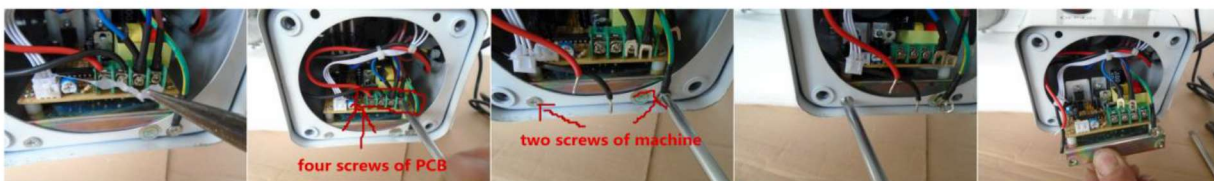

Fig 2
B.用钳子把厌氧胶拿开,然后将扭松线路板上的四颗小螺丝和移除机器上的两颗螺丝,最后把所有的线拔了,拿出旧线路板(图2)。
First , remove the anaerobic and two screws of the machine. Then, unplug all wires after unscrewing four screws of the old PCB. Finally, remove the old PCB from the machine. (Fig2)